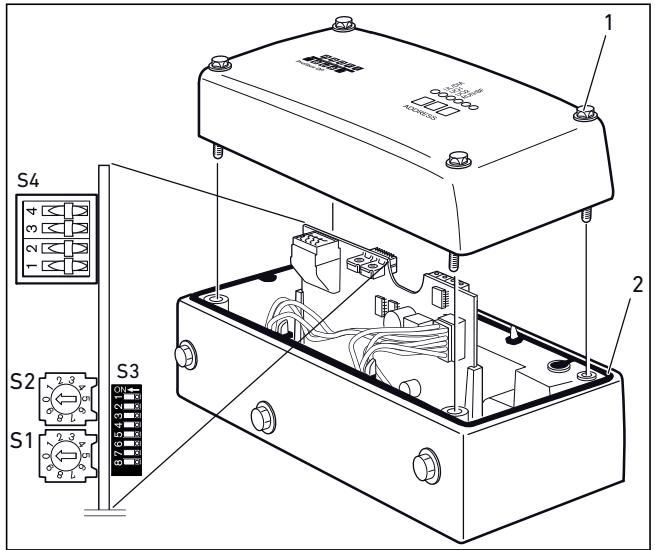

Fig. 4: Removing/fitting the cover of the bus coupler
All of these settings are made with the switches beneath the cover of the bus coupler. See Fig. 4 below for position of switches.
1. Remove the cover of the bus coupler by undoing the four screws (1).
3. Refit the cover carefully according to Fig. 4 below. Ensure that the sealing (2) is positioned correctly. Tighten the screws (1) with a torque of 1.0 to 1.2 Nm.